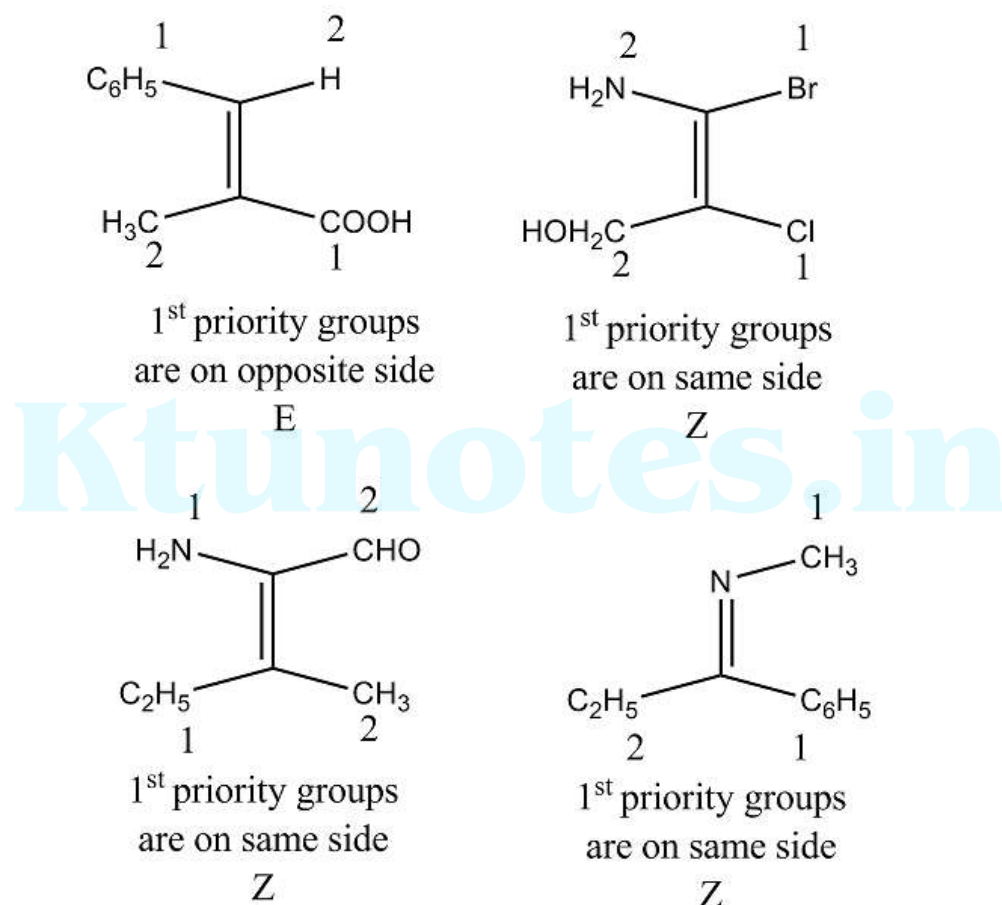

Figure 4.29: E-Z notations
2. In first priority groups are on same side the notation 'Z' is given and if first priority groups are on opposite side the notation 'E' is given in fig. 4.29